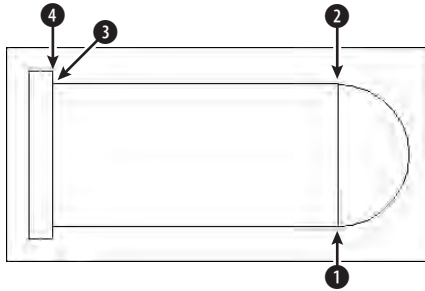

Figure 4-24: Drawing a steam boiler with an endpoint running object snap
7. Start the ARC command. At the Specify start point of arc or [Center]: prompt, pick the endpoint at ①, shown in Figure 4-24. (Look for the marker and AutoSnap tooltip.)
8. At the Specify second point of arc or [Center/End]: prompt, right-click and choose End. Pick the endpoint at ②, shown in Figure 4-24.
10. Start the LINE command and at the Specify first point: prompt, pick the endpoint at ② in Figure 4-24.
13. Start the LINE command. At the Specify first point: prompt, place the cursor 0.25 units above ③ in Figure 4-24 (at 2,5.25). You may need to turn off the running OSNAP temporarily. Pick point 2,5.25.
Specify next point or [Close/Undo]: *Pick the endpoint at ④ in Figure 4-24.*